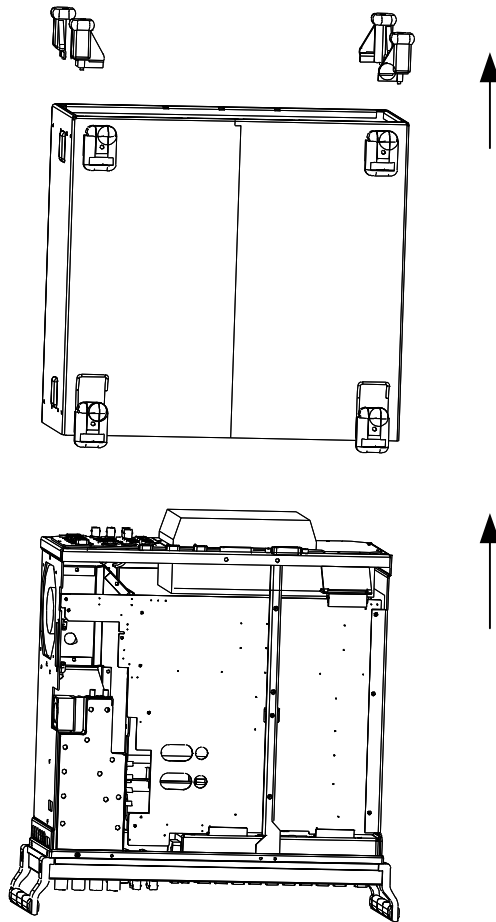

Fig. 1
- 1.3 Place unit on handles at the front, push casing upwards and remove (Fig. 1).
➤ Fit cover and cabinet feet back on in the reverse order to that described under 1.2/1.3 (Fig. 1).